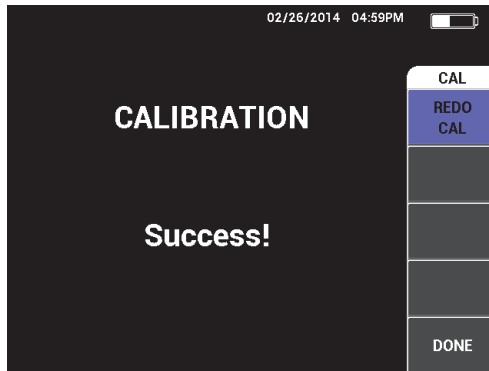

Figure 5-52 The confirmation of a completed calibration
- Complete the calibration by selecting **DONE** after **Success** is displayed (see Figure 5-52 on page 163).